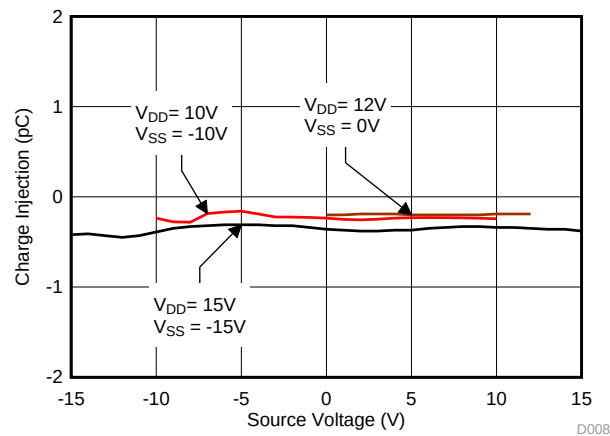

图 31. Source-to-Drain Charge Injection vs Source Voltage
The TMUX6119 utilizes special charge-injection cancellation circuitry that reduces the source (S_x) to drain (D) charge injection to as low as -0.35 pC at $V_S = 0$ V, and -0.41 pC in the full signal range, as shown in 图 31.